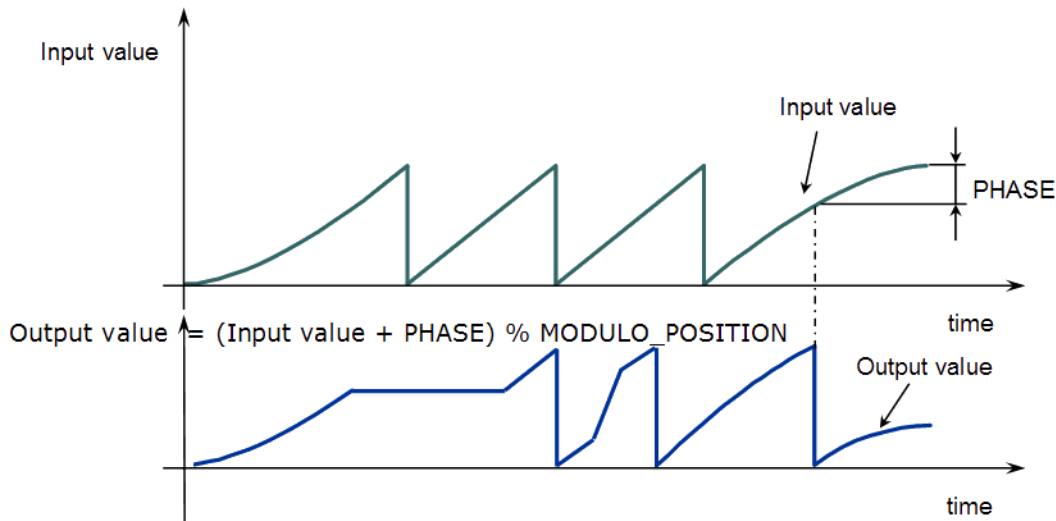

Figure 4-68: Changed Slope value
- This is applied when the Phase value is changed. (Figure 4-68)